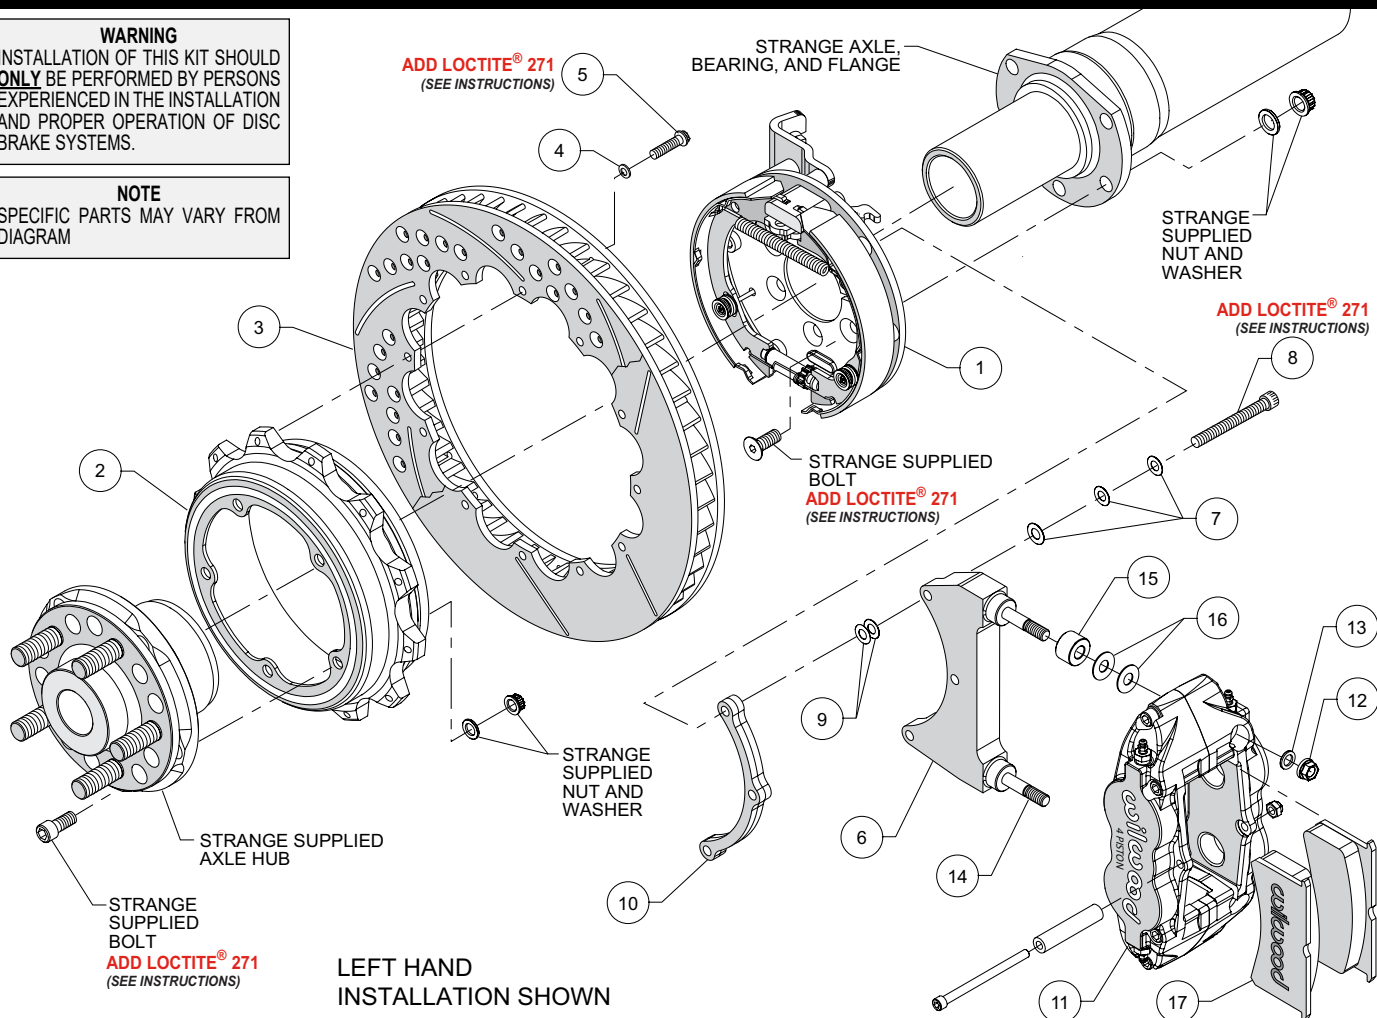

Figure 1. Typical Installation Configuration
Assembly Instructions (numbers in parenthesis refer to the parts list and Figure 1 on the preceding pages): **CAUTION:** All mounting bolts must fully engage threaded holes.
•Orient the bracket assembly (1) as shown in Figure 1 and slide it onto the axle housing flange. Ensure that the bracket assembly backing plate fits flush against the axle housing flange. Secure bracket assembly to the axle flange using bolts, washers, and lock nuts (all Strange supplied) as shown in Figure 1. Apply red *Loctite*® 271 to the bolt threads and torque to Strange specifications.
•**NOTE:** Please reference the caution statement at the beginning of the assembly instructions. The caliper mounting bracket assembly (6) should be installed first with clean, dry threads on the mounting bolts (8). Install the bracket using bolt (8), three flat washers (7), shim washer (9) and spacer (10), as shown in Figure 1. **NOTE:** End of bolt should not exceed inside face of insert. The bracket must tighten squarely against the back side of the bracket kit assembly (1). Inspect for interference from the axle flange. Use two thin shims (9) between the bracket (6) and spacer (10) during initial trial fitting. Later, after the caliper alignment has been checked, the mount bolts will be secured using red *Loctite*® 271.
•Orient the rotor (3) and the hat (2) as shown in Figure 1. Attach rotor to hat using bolts (5) and washers (4). Using an alternating sequence, apply red *Loctite*® 271 to the threads, and torque to 155 in-lbs.
•Orient the hat (2) and the axle hub (Strange supplied) as shown in Figure 1. Attach the hat to the axle hub using bolts, washers, and lock nuts (all Strange supplied) as shown in Figure 1. Apply red *Loctite*® 271 to the bolt threads and torque to Strange specifications.
•Slide the rotor/hat/hub assembly onto the axle as shown in Figure 1 and secure per Strange Engineering specifications.
•Initially place two .035" thick shims (16) and one spacer (15) on each stud between the caliper and the bracket, as shown in Figure 1 and Photo 1. Mount the caliper (11) onto the bracket (6) using lock nuts (12) and washers (13), Figure 1. Temporarily tighten the lock nuts and view the rotor through the top opening of the caliper. The rotor should be centered in the caliper, Photo 2. If not, adjust by adding or subtracting shims (9) between the bracket (6) and the spacer (10). Always use the same amount of shims on each of the two mounting bolts. Once the caliper alignment is correct, remove the bracket mounting bolts one at a time, apply red *Loctite*® 271 to the threads, and torque to 180 in-lb.